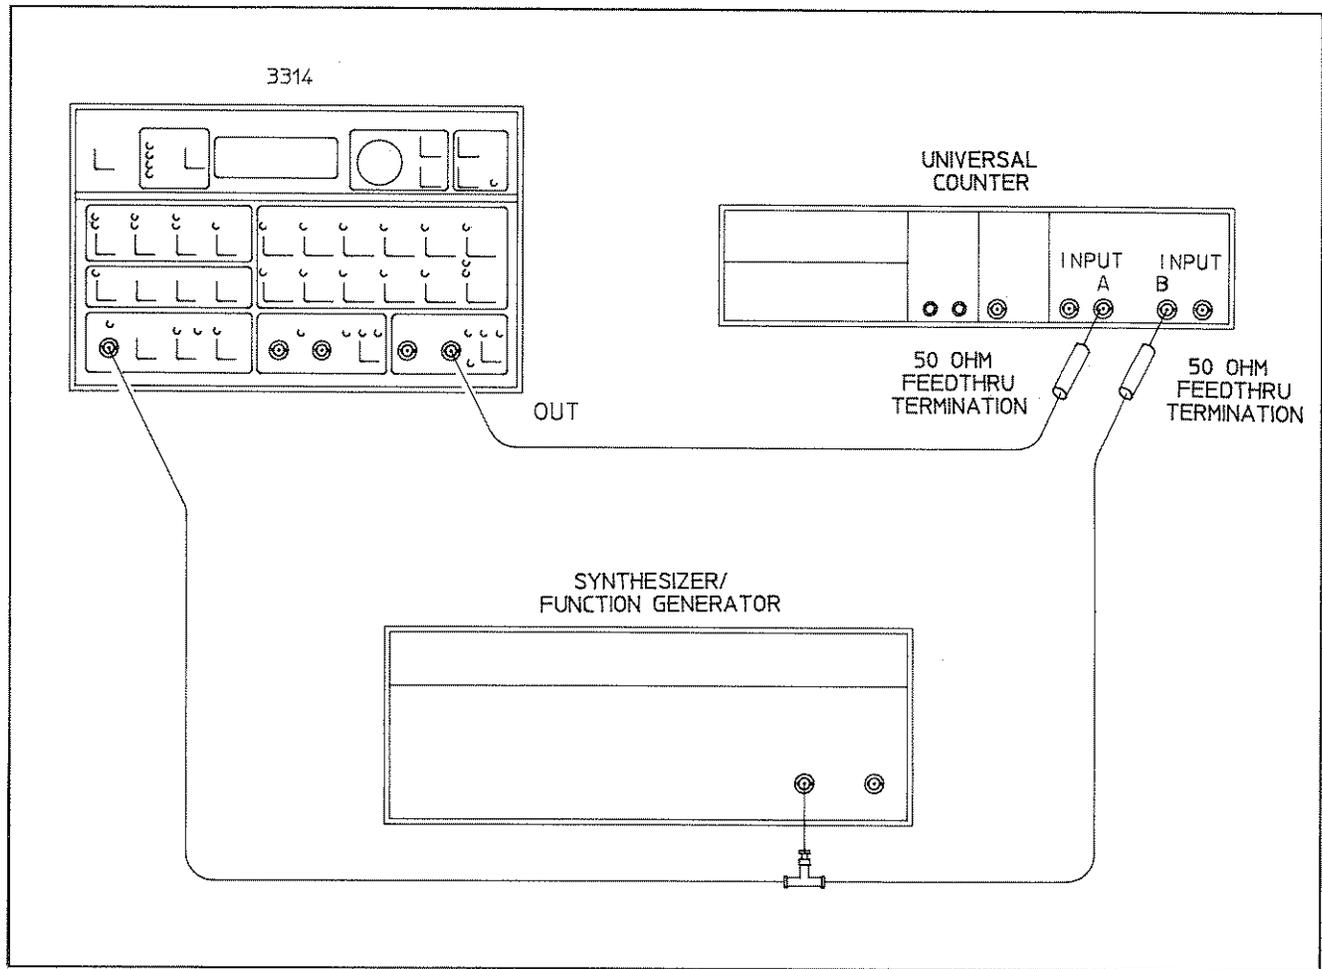

Figure 4-12. Phase Locked Loop Phase Accuracy
E. Connect the Synthesizer/Function Generator and the Universal Counter to the 3314A as shown in Figure 4-12.